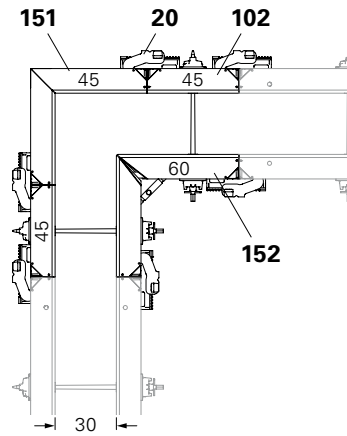

Fig. B2.06
- Wall thickness 30: Fig. B2.06